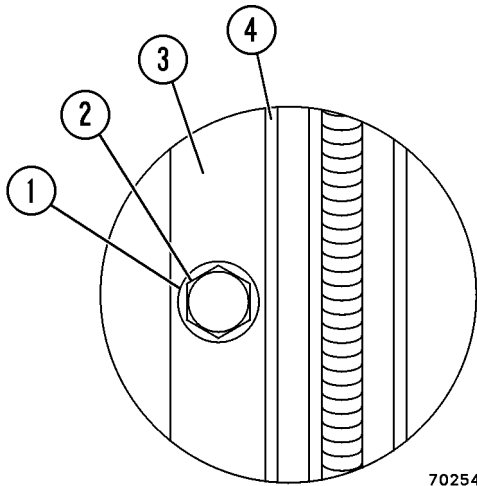
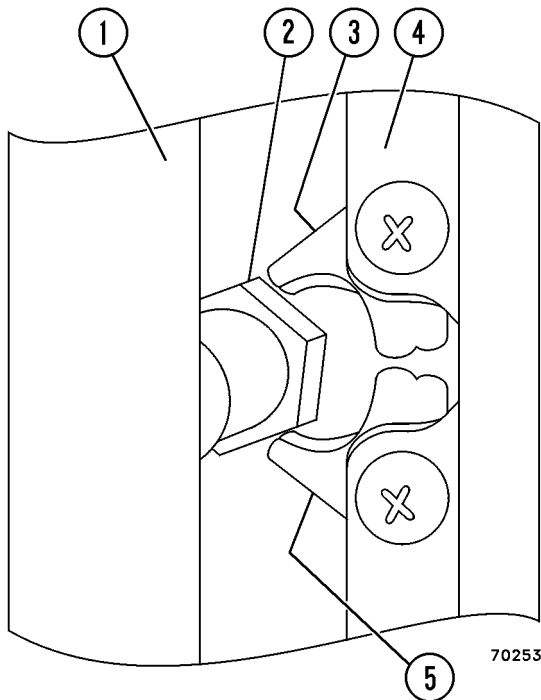

FIGURE 2-3. DOOR JAMB BOLT ADJUSTMENT
FIGURE 2-4. DOOR JAMB BOLT ADJUSTMENT
1. Mark washer location (1, Figure 2-3) portion of the door jamb bolt with a marker, pen, or pencil by circumscribing the outside edge of the washer onto the jamb.
2. Loosen door jamb bolt (2) and move it straight inwards 1.5 mm (1/16 inch) and retighten the bolt.
3. Hold a piece of paper between where door seal (4) will contact the skin of the cab and firmly close the door.
- If the door springs back when trying to close it, striker bolt (2, Figure 2-4) has probably loosened and slipped down from where the catch can engage with the bolt.
1. Open the door and close both latches (3) and (5) on the catch until they are both fully closed.